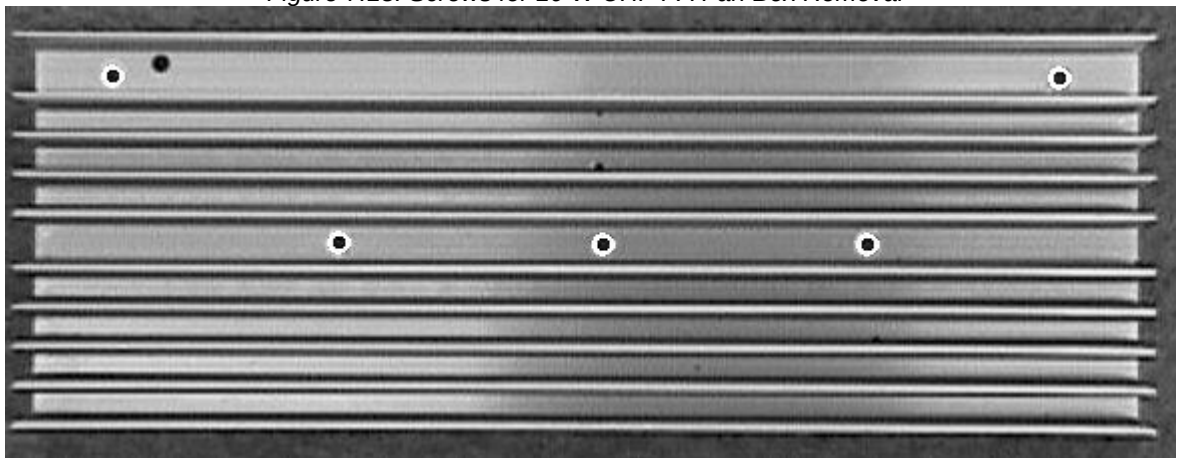

Figure 7.19: Heat Sink Screws for UHF PA Removal
5. Remove the seven cap screws holding the heat sink casting to the main casting as per Figure 7.19.
8. Carefully reconnect the above cables to the new Power Amplifier and position the new module inside the EX7100 terminal casting. Refit the seven cap screws holding the heat sink casting into the main casting. (Refer to Figure 7.19)